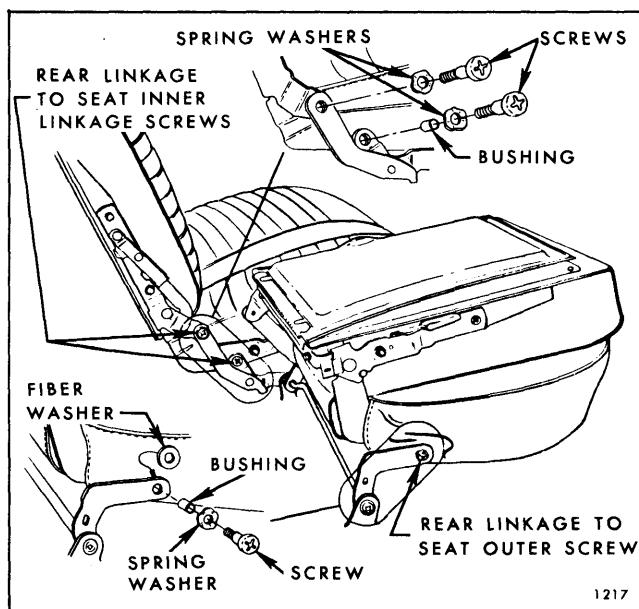

Fig. 15-78—Floor Pan Rear Linkage
2. Remove screws securing rear floor pan linkage to each side of seat cushion frame (Fig. 15-78); then, remove linkage assembly from seat.
3. To install, reverse removal procedure. Inserts in Figure 15-78 show relationship of linkage, bushings and attaching screws.
2. Remove floor pan rear linkage-to-seat inner linkage attaching screws (Fig. 15-78).
2. Remove outer linkage cover. Remove screw securing seat rear floor pan linkage to seat outer attaching screw (Fig. 15-78).